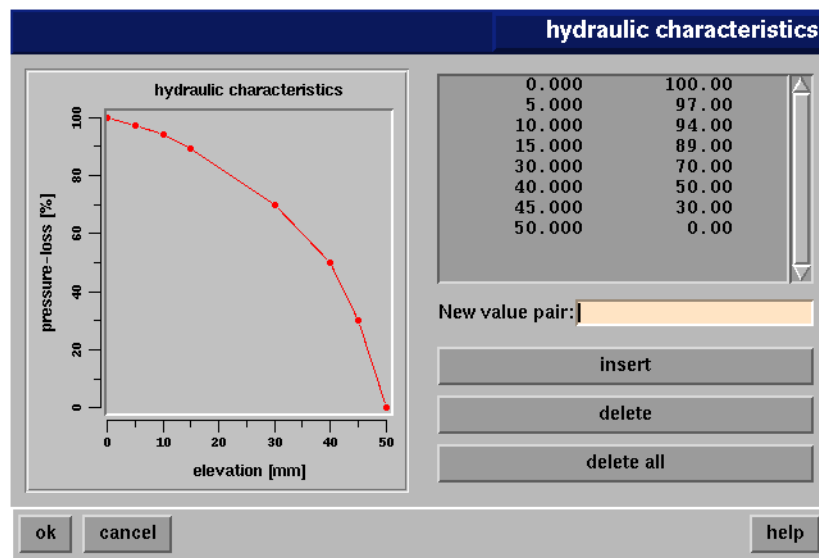

Fig. 1-8: Defining pressure loss for a plug/orifice combination
- ⇒ In the window 'plug parameters', choose the 'edit hydraulic' button. The window 'hydraulic characteristics' appears (Fig. 1-8).